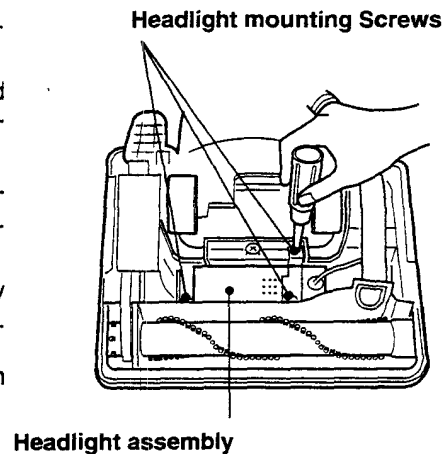

Fig. 22
- 1 Remove the headlight mounting screws. (Fig. 22)